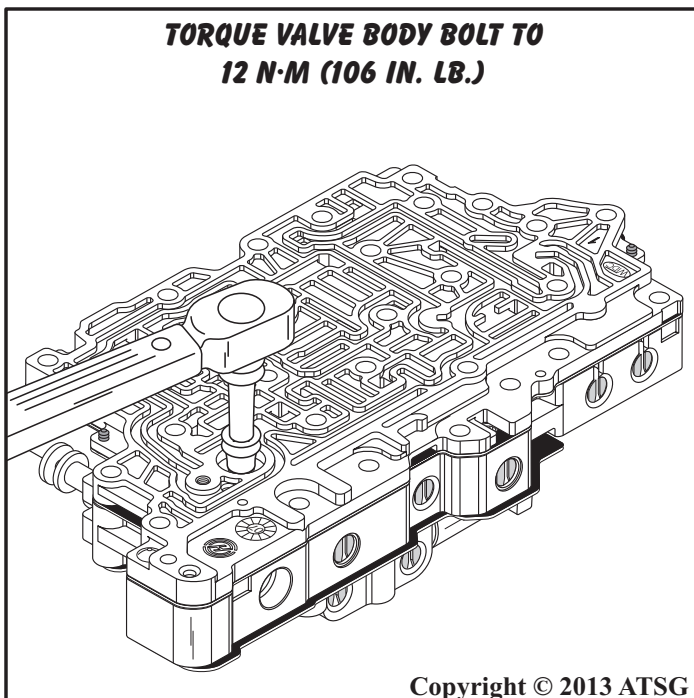

Figure 182
33. Torque the one 55mm bolt just installed to 12 N•m (106 in. lb.), as shown in Figure 182.